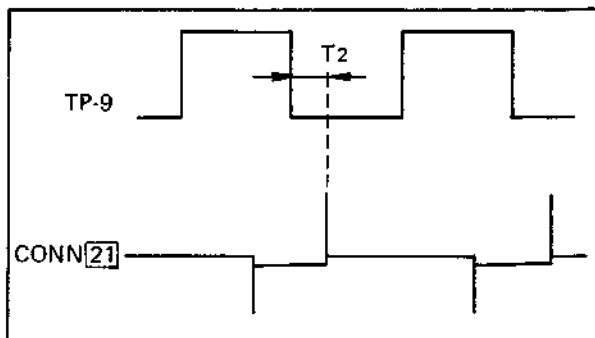

Fig. 5-17 6H REC monostable
6. So that the phase difference between the signals at TP-9 and connector 21 (T_2 in Fig. 5-17) becomes equal to T_1 , adjust R54 (6H REC MM) of the SERVO board.